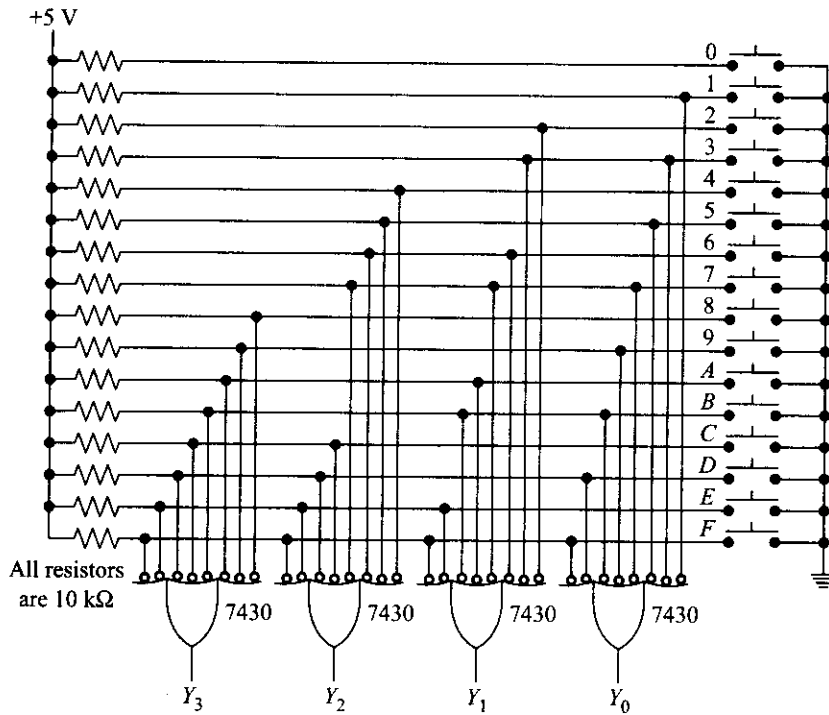

Fig. 5.8
- 5.23 Give the value of $Y_3Y_2Y_1Y_0$ in Fig. 5.8 for each of these: